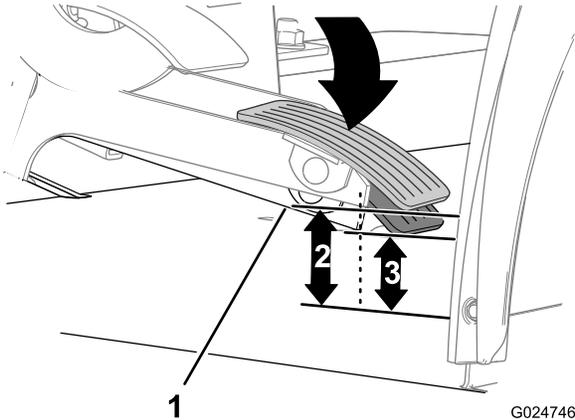

Figure 88
1. With the accelerator pedal up, measure the distance from the rearward-bottom corner of the accelerator-pedal arm to the floor (Figure 88).
2. Gently move the throttle pedal down until the free play is removed from between the accelerator pedal and the throttle cable (Figure 88).
3. While holding the pedal in position to remove the free play, measure the distance from the rearward bottom corner of the accelerator-pedal arm to the floor (Figure 88).